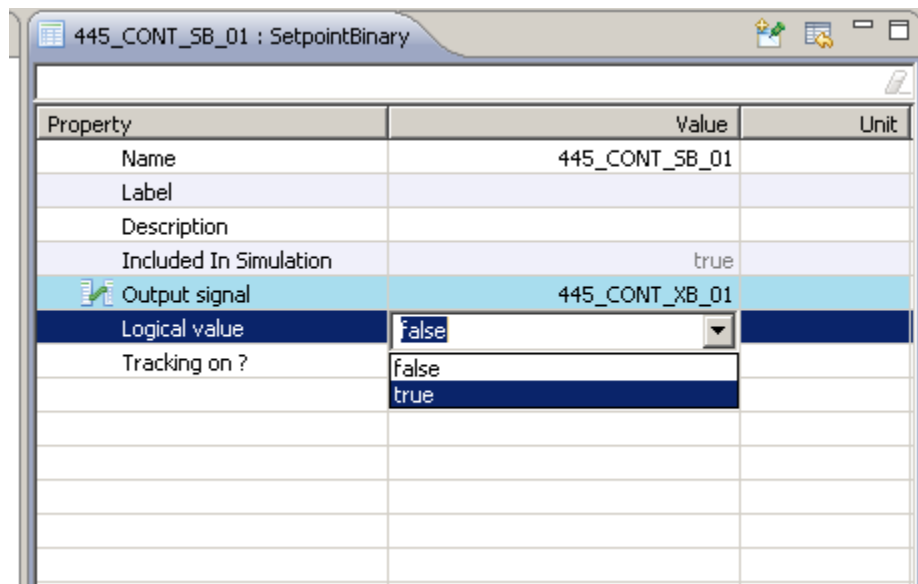

Figure 12. Changing the logical value of the Setpoint Binary component
9. The pumps can be tripped by changing the Logical value attribute to “true” (see Figure 12). The signal arrow should turn green.